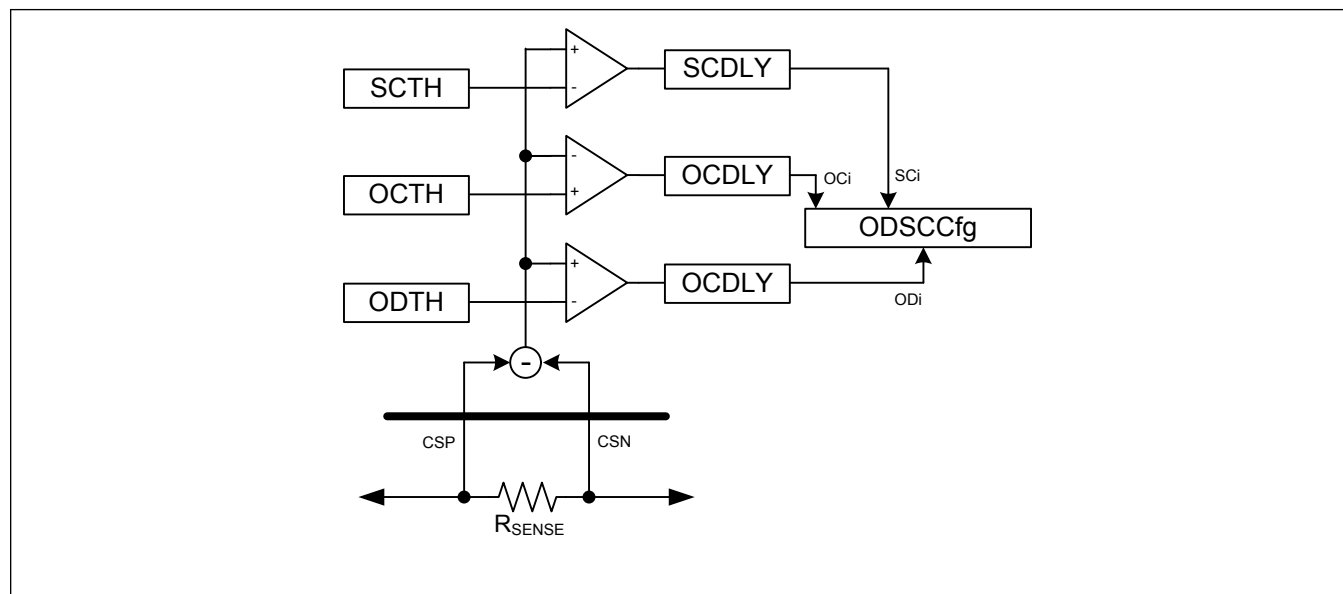

Figure 13. Overcurrent Comparator Diagram
The MAX17332 contains three programmable fast overcurrent comparators called Overdischarge (OD), Short-Circuit (SC), and Overcharge (OC) that allow control protection for overdischarge current, short-circuit current, and overcharge current. These comparators have programmable threshold levels and programmable debounced delays. See Figure 13.